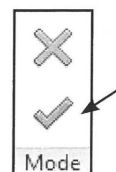

Fig. 04.09. *Finish Edit Mode*.
- Klik *Finish Edit Mode* (Fig. 04.09).